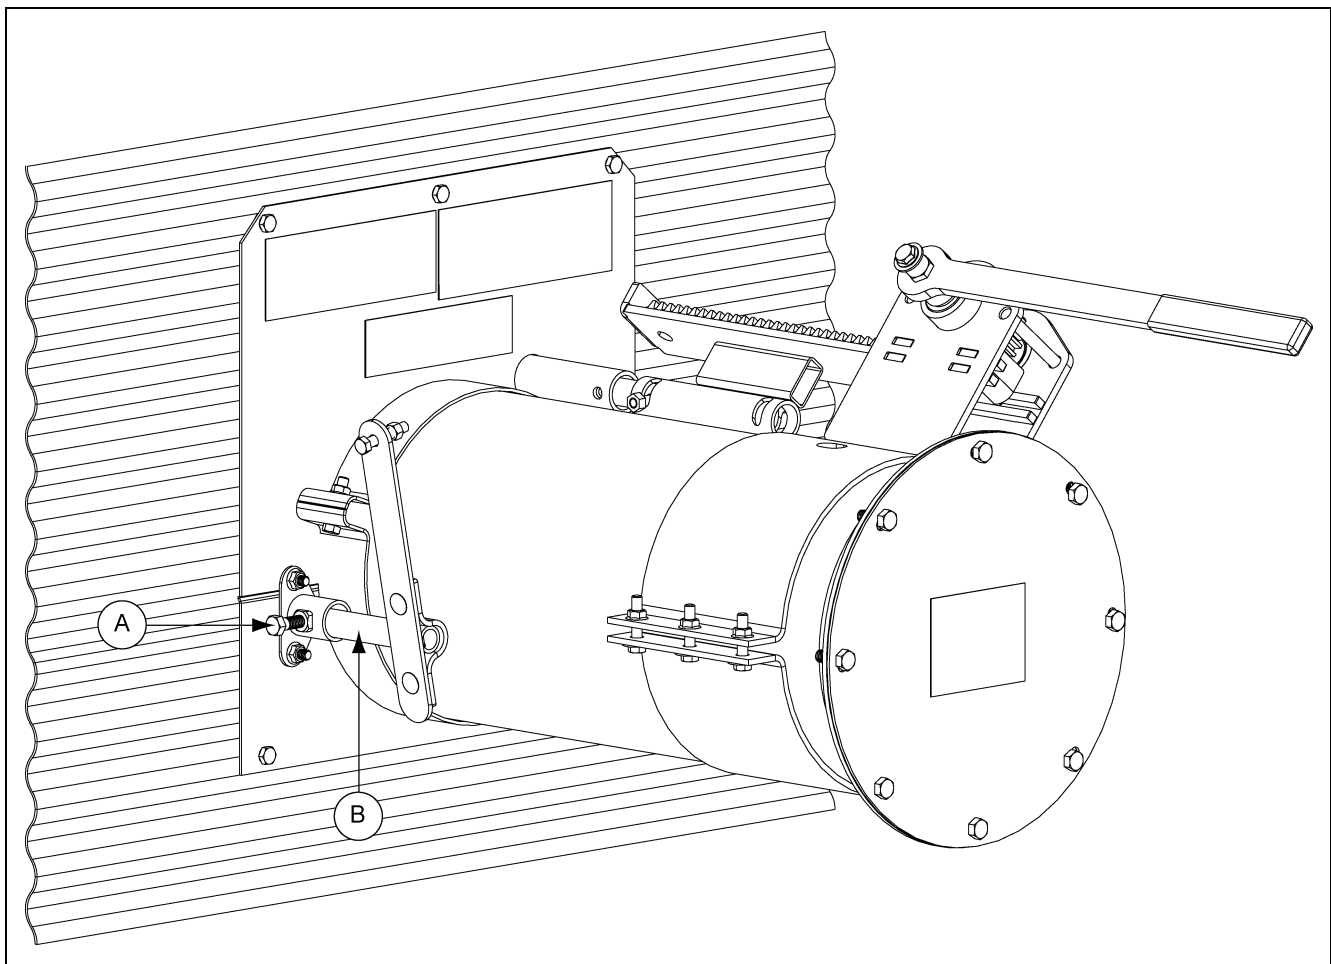

Figure 6F
3. Once the clutch has been engaged, tighten the clutch control pipe position lock bolt to hold the clutch control rod in the engaged position. (See Figure 6F.)